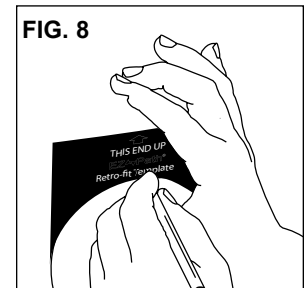

FIG. 8
2. Using provided template, align template at top of sleeve and trace around outer edge of template (See Fig 8).